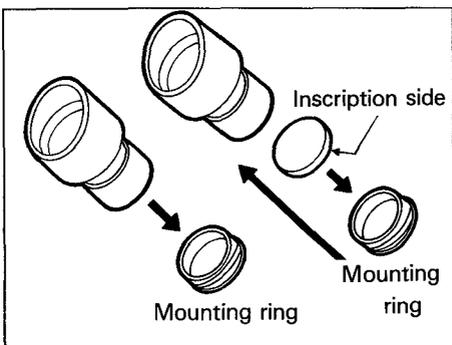

Fig. 7
- (1) Twist and remove the mounting rings from the eyepiece. (Fig. 7)
- (2) Remove dirt or dust from the eyepiece micrometer, and mount it to the mounting ring by turning the ring clockwise with the inscription side facing downward. (Fig. 7)
- (3) Gently screw the mounting ring containing the eyepiece micrometer into the eyepiece and tighten securely. (Fig. 7)
- (4) To remove the eyepiece micrometer, twist the mounting ring. Wrap the micrometer in clean, soft paper for storage.